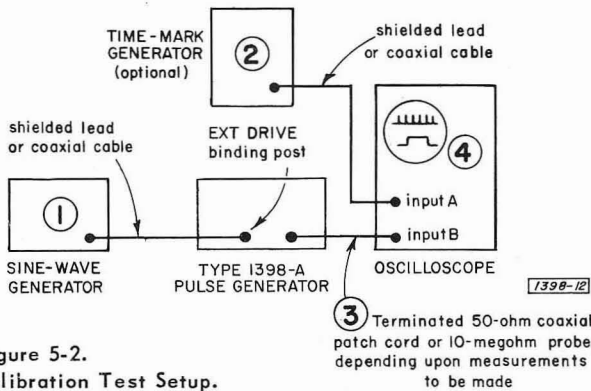

Figure 5-2. Calibration Test Setup.
**General.** A description of the equipment required for a complete calibration of the Type 1398-A Pulse Generator is given in the paragraphs that follow. The interconnections necessary are shown in Figure 5-2.